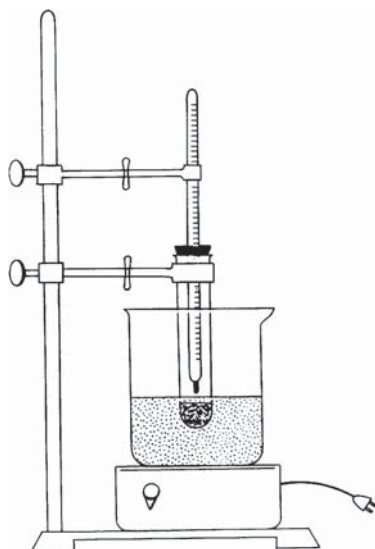

Figure 13.7
1. Obtain an unknown liquid from your instructor and record its code number on the Report Sheet (7).
2. Clamp a clean, dry test tube (100 × 13 mm) onto a ring stand. Add to the test tube approximately 3 mL of the unknown liquid and two small boiling stones. Lower the test tube into a 250-mL beaker that contains 100 mL of water and two boiling stones. Adjust the depth of the test tube so that the unknown liquid is below the water level of the water bath (Figure 13.7).
5. Gradually heat the water in the beaker with a hot plate and watch for changes in temperature. As the liquid begins to boil, the temperature above the liquid will rise. When the temperature no longer rises but remains constant, record the temperature to the nearest 0.1°C (8). This is the observed boiling point. From the list in Table 13.2, identify your unknown liquid by matching your observed boiling point with the compound whose boiling point best corresponds (9).